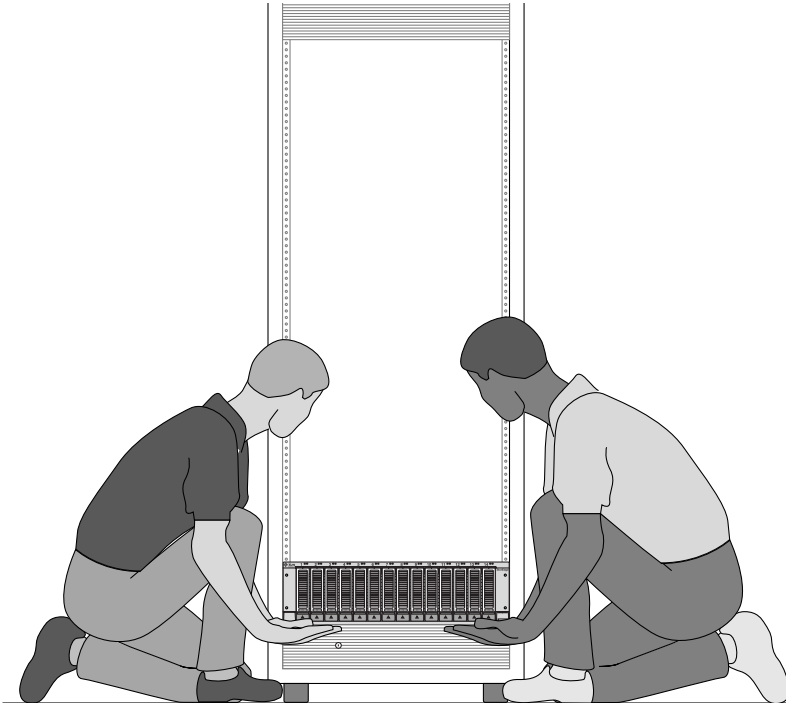

FIGURE 2-9 Positioning the Enclosure in the Cabinet
2. Using two people, one at each side of the enclosure, carefully lift and rest the enclosure on the bottom ledge of the left and right rails (FIGURE 2-9).